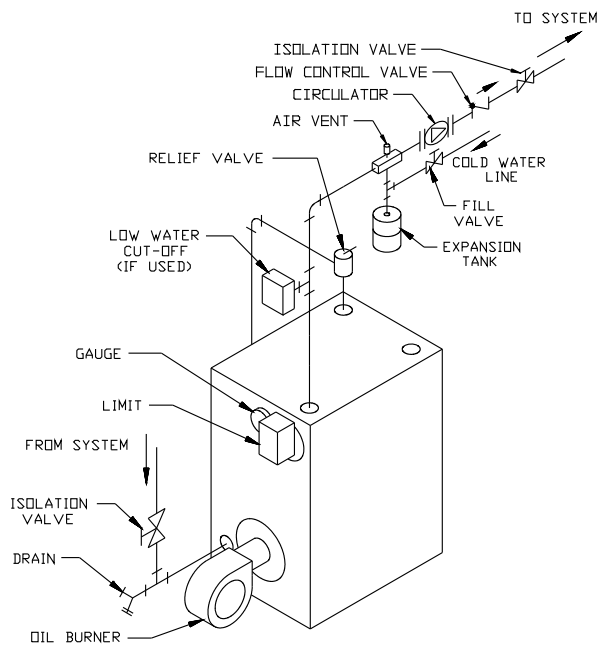

FIGURE 10: STANDARD BOILER PIPING
Figure 10 shows typical boiler system connections on a single zone system. Additional information on hydronic system design may be found in *Installation of Residential Hydronic Systems* (Pub. #200) published by the Hydronics Institute in Berkeley Heights, NJ. The components in this system and their purposes are as follows:
- 1) **Relief valve** (Required) - Mount the relief valve on the top left side of the boiler as shown in Figure 10 using the 3/4" nipple provided. The relief valve shipped with the boiler is set to open at 30 psi. This valve may be replaced with one having a pressure up to the "Maximum Allowable Working Pressure" shown on the rating plate. If the valve is replaced, the replacement must have a relief capacity in excess of the DOE heating capacity for the boiler.
- 2) Circulator (Required) - Figure 10 shows the ideal location of the circulator which is in the supply piping immediately downstream of the expansion tank. A less ideal, but acceptable, location for most residential circulators is in the return (if this is done, be sure that adequate clearance exists to open the door).